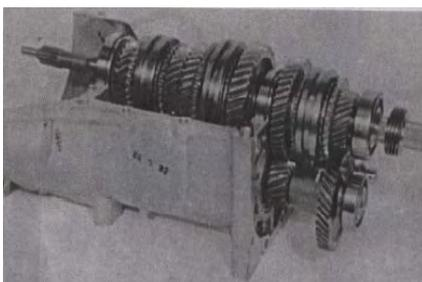

Fig 10-87
(4) Install main shaft and input shaft ass'y in lower case. (FIG.10-87、 10-88)